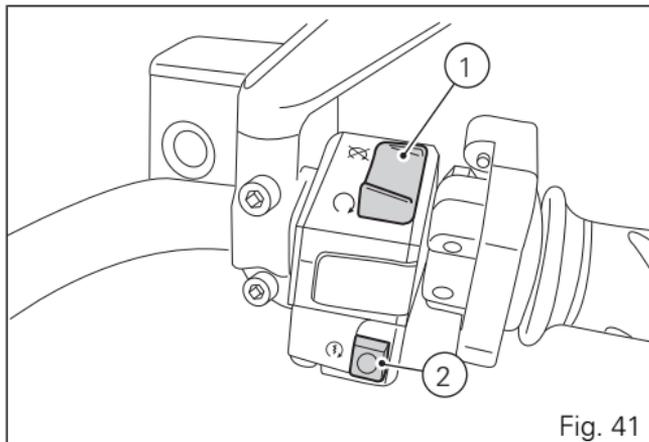

Fig. 41
1) if the code is recognised, the immobilizer enables engine ignition. Press the START button( 2Fig. 41), to start the engine;